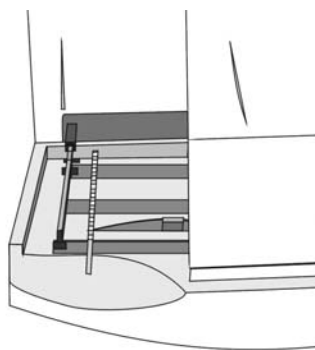

Figure 2-4-3
(1) Immerse the reagent strip into a urine sample, and then take it out by running the edge of the strip against the rim of the container to remove excessive urine.
(2) Put the strip in the test area of the analyzer with reagent area upward (Figure 2-4-3). The pusher will push the reagent strip to the testing area once the strip is sensed. Testing result will be printed out after test.